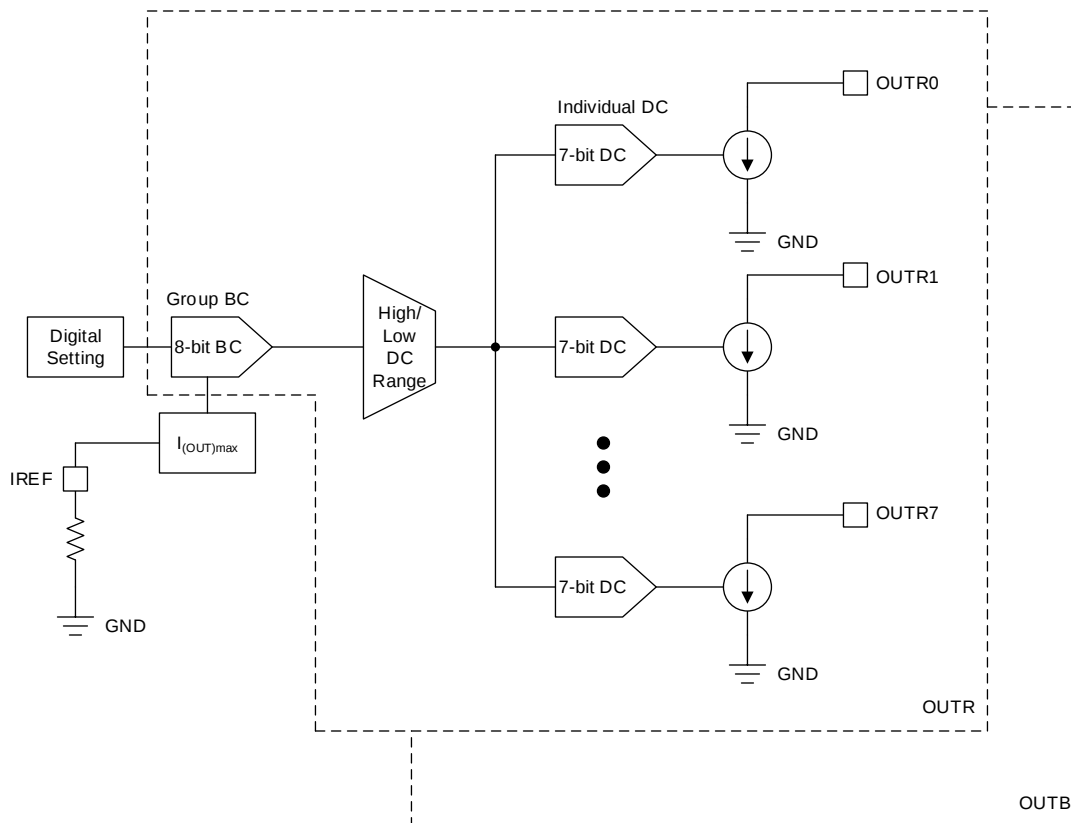

图 21. Brightness Control and Dot Correction Block Diagram
The TLC6C5716-Q1 device implements an 8-bit group brightness control (BC) and 7-bit individual dot correction (DC) to calibrate the output current. The 16 output channels are divided into two groups: OUTRn and OUTBn. Each group contains 8 output channels. There are two configurable ranges for the DC value of each group. One is the low DC range with output current from 0 to 66.7% $I_{(OUT)max}$, the other is the high DC range with output current from 33.3% $I_{(OUT)max}$ to 100% $I_{(OUT)max}$. The IREF resistor, BC, DC, and DC range together determine the channel output current, as shown in 图 21. 公式 2 and 公式 3 are the detailed output current calculation formulas.